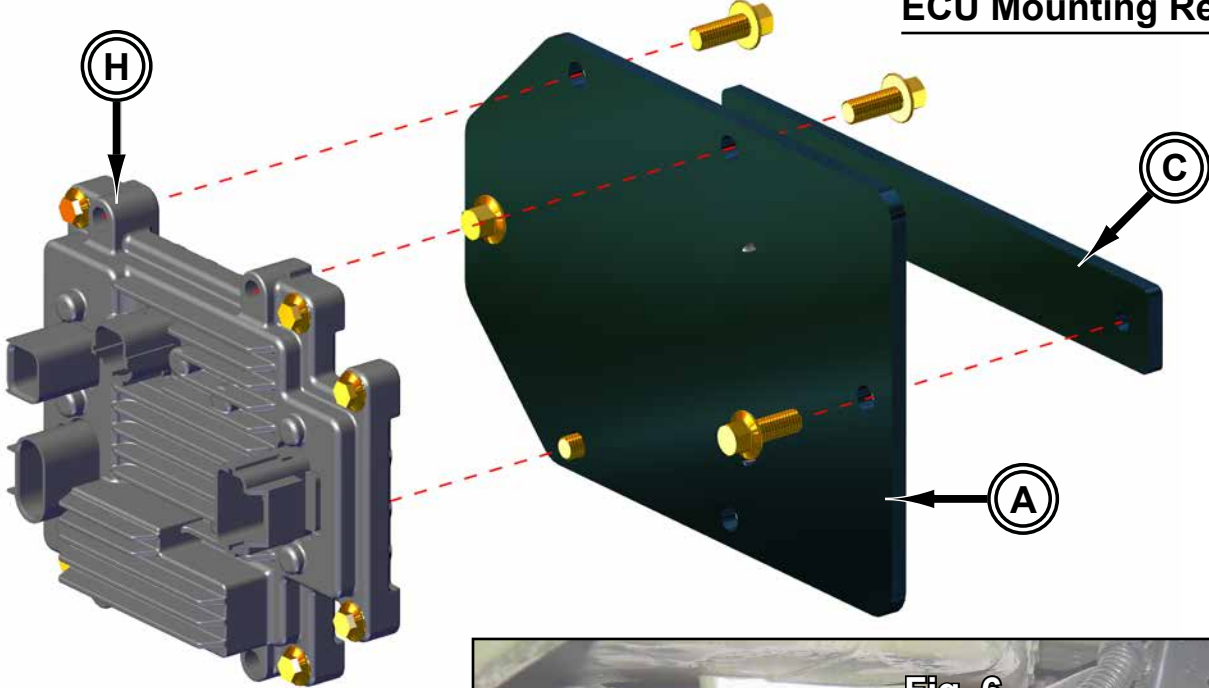

Fig. 3
3. Remove Handlebar Block, Pod Mounting Bracket, and Handlebar. Place Handlebar out of way. See Fig. 3.
4. Remove Steering Bushing. See Fig. 3.
3. Install Motor (G) onto Lower Shaft (D). Secure with provided hardware. See Motor Shafts Detail and Fig. 3.
4. Secure Motor Mount (B) and Motor (G) with M10-1.50 x 25mm Lg. FHCS. See Fig. 3.